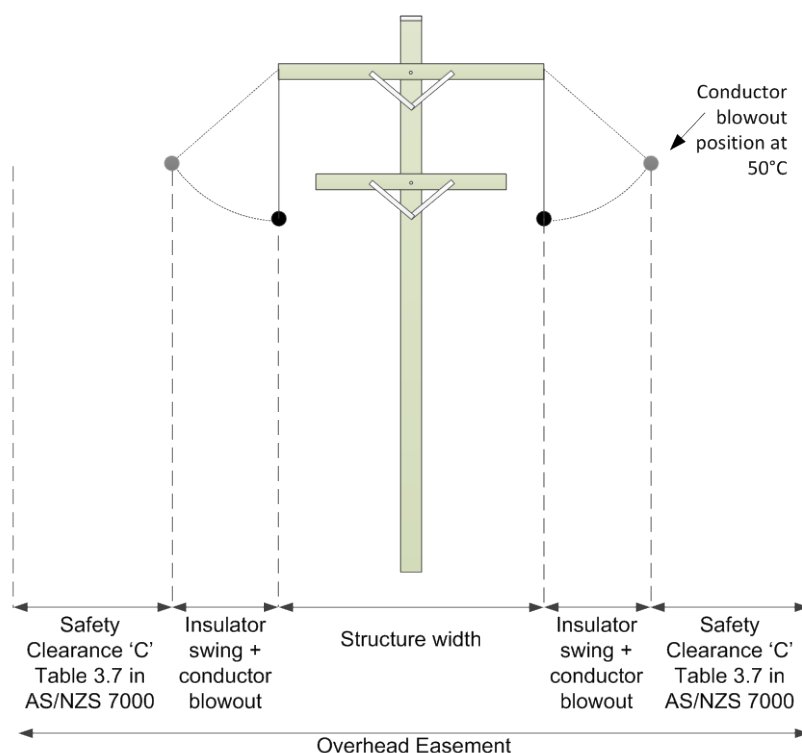

Figure 2 - Minimum overhead easement
- The width of the structure plus, two (2) times the sum of:
- The appropriate clearance from Table 3.7 of AS/NZS 7000 (Refer to Figure 2)